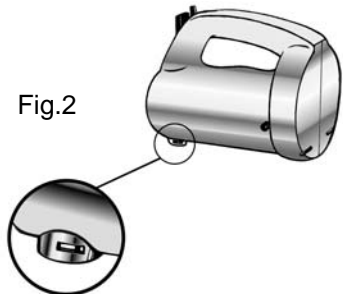

Fig.2
- The power mixer has two slots next to the holes for inserting the attachments. (Fig. 2)